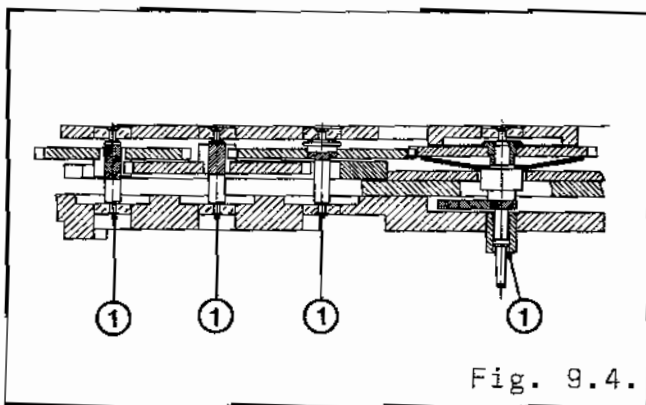

Fig. 9.4.
4.56 Oil pivots of the four minute recorder mobiles (fig. 9.4), pivot of the hour recorder mobile, pivot of small second, pivot of chronograph mobile and pivots of calendar mobiles (fig. 10.4).